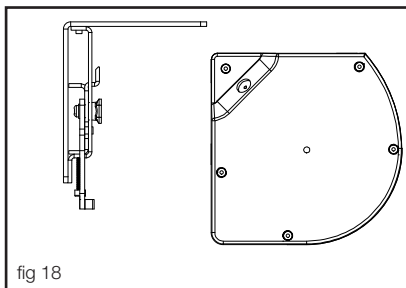

fig 18
- Mount the brackets on the wall or in the ceiling (fig 18 & 22).
- Montera konsolerna (fig 18 & 22).